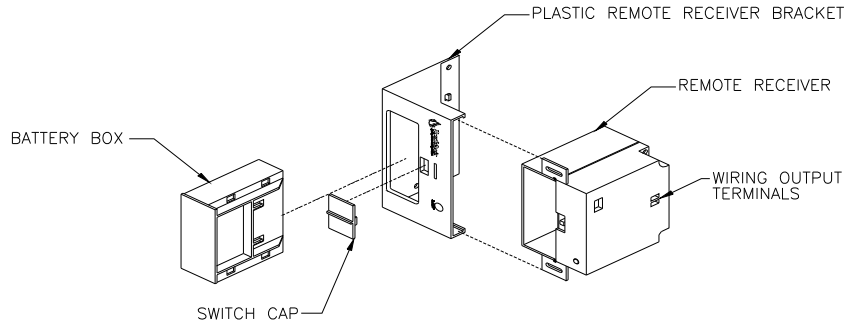

Figure 6: Floor Mounting
2. Slide the **Remote Receiver** into the **Remote Receiver Bracket**. Refer to figure 6.
- l) Remove the cover from the back of the **Remote Transmitter** to expose the **CHILD- PROOF (C-P)** switch. Refer to figure 6.